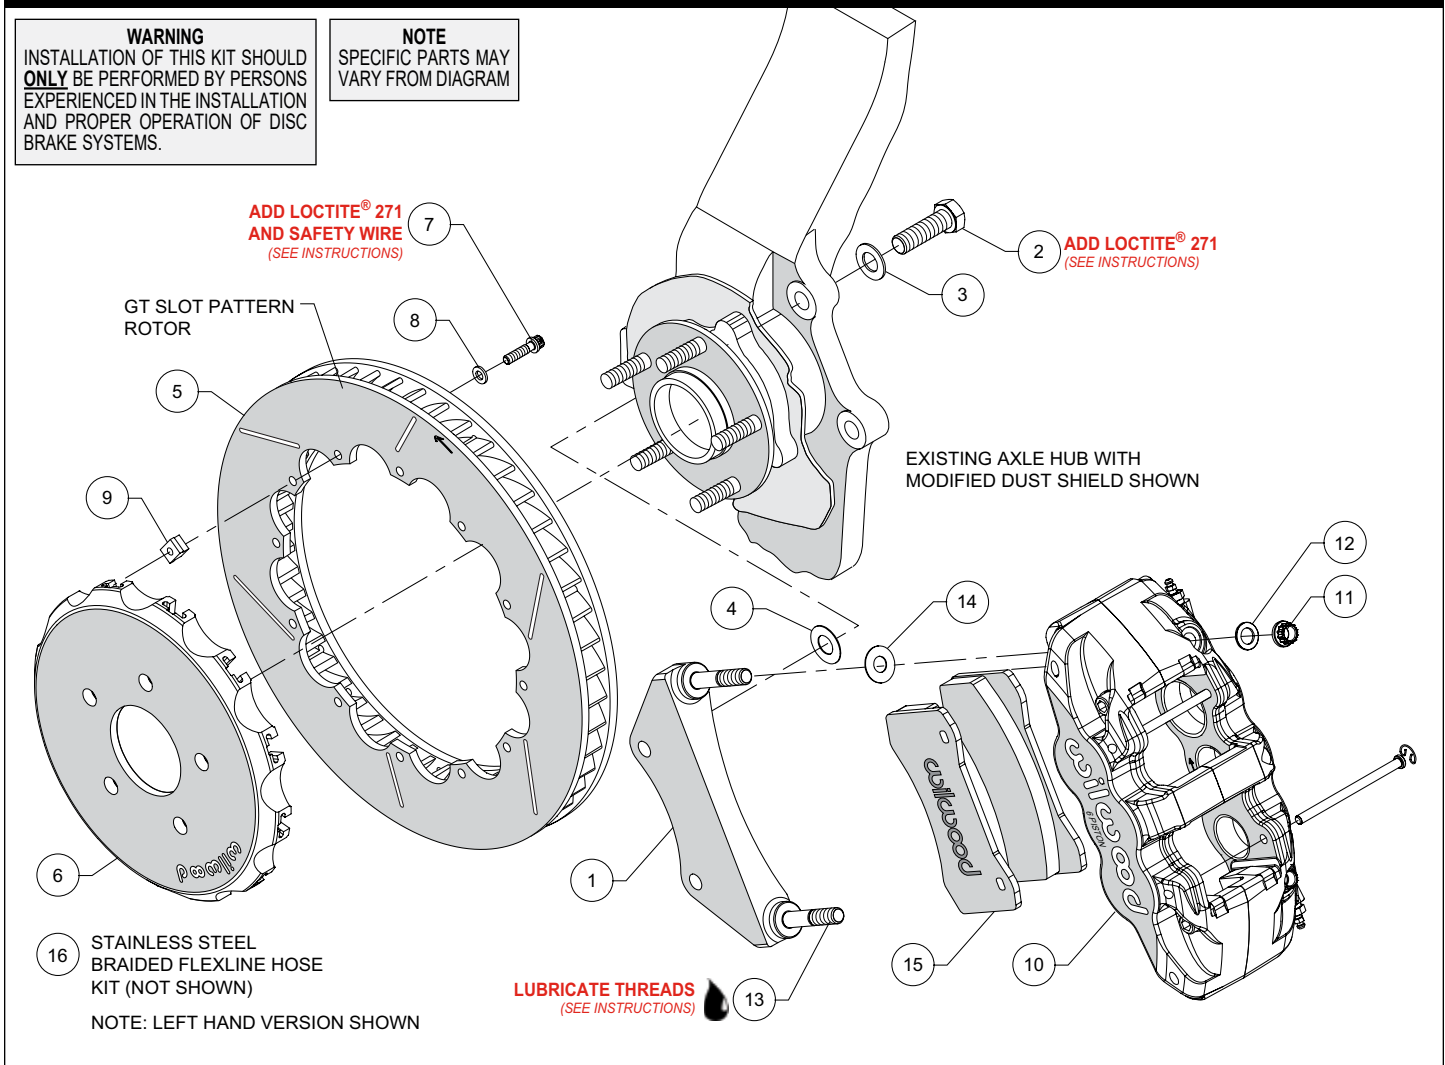
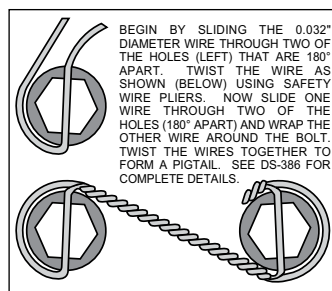

Figure 1. Typical Installation Configuration
Figure 3. Safety Wire Diagram
NOTE: Numbers in parenthesis refer to the parts list and Figure 1 on the preceding pages.
- The caliper mount bracket (1) should initially be installed with clean, dry threads on the mounting bolts. Orient the bracket as shown in Figure 1 and Photo 2, and install using bolts (2) and washers (3). Initially place one .029" thick shim (4) on each bolt between the bracket and upright, Figure 1. Temporarily tighten the mounting bolts. **NOTE:** The bracket must fit squarely against the mounting points on the upright. Inspect for interference from casting irregularities, machining ridges, burrs, etc. Later, after the caliper alignment has been checked, the mount bolts will be secured using red *Loctite*® 271.
- Orient the rotor (5) and the hat (6) as shown in Figure 1 and Photo 3. Attach rotor to hat using bolts (7), washers (8), and t-nuts (9), Figure 1. Follow additional instructions included with the bolt kit. Apply red *Loctite*® 271 to the bolt threads and torque to 120 **in-lb** using a criss-cross pattern. Safety wire bolts using standard 0.032 inch diameter stainless steel safety wire as shown in Figure 3. Please refer to Wilwood's data sheet DS-386 (available at www.wilwood.com/Pdf/DataSheets/ds386.pdf) for complete safety wire installation instructions.
- NOTE:** This kit contains distinct right and left hand calipers that must be mounted in a specific direction, as described below. Lubricate the caliper mounting studs (13) with lightweight oil. Initially place one .030" thick shim (14) on each stud between the caliper and the bracket, as shown in Figure 1 and Photo 4. Mount the caliper (10) onto the bracket (1) using lock nuts (11) and washers (12), Figure 1. Ensure that the caliper is mounted so the largest pistons are at the rotor exit end of the caliper, in relation to the direction of rotor rotation. Temporarily tighten the lock nuts and view the rotor through the top opening of the caliper. The rotor should be centered in the caliper, Photo 5. If not, adjust by adding or subtracting shims (4) between the bracket and the upright. Always use the same amount of shims on each of the two mounting bolts. Once the caliper alignment is correct, remove the bracket mounting bolts (2) one at a time, apply red *Loctite*® 271 to the threads, and torque to 105 ft-lbs.
- Remove the two pad retaining pins from the caliper (10) by carefully popping out the pin retaining clips and sliding out the pins. Insert the brake pads (15) into the caliper from the bottom, Figure 1 and Photo 6. With the friction material facing the rotor, secure the brake pads in place with the pad retaining pins and clips, Photo 7. Reinstall the caliper (10) onto the caliper mounting bracket (1) and temporarily tighten the lock nuts (11). Check that the top of the brake pad is flush with the outside diameter of the rotor, Photo 8. If not, adjust by adding or subtracting shims (14) between the caliper and the bracket. After the caliper pad height is set, torque the caliper lock nuts (11) to 47 ft-lb.